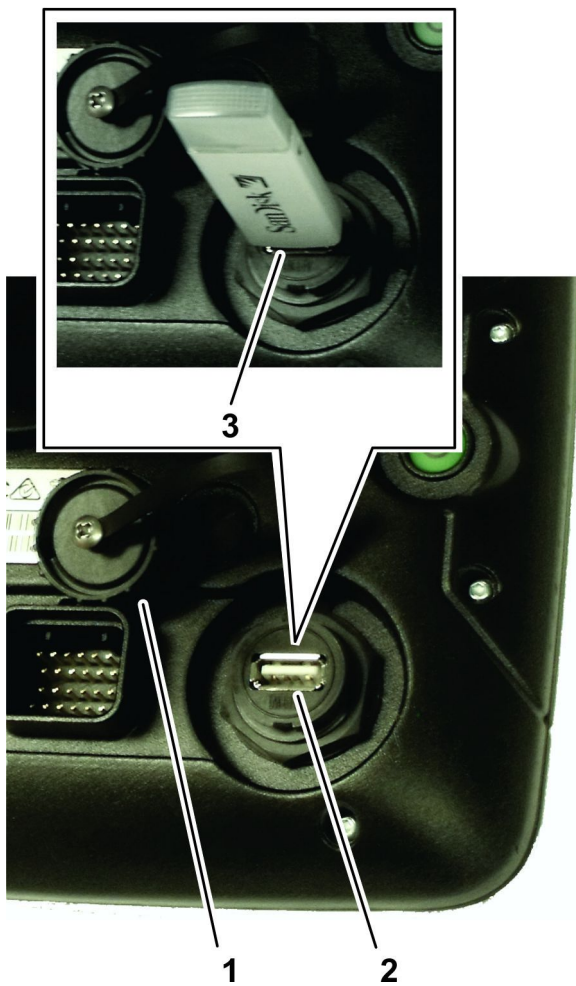

Figure 22
1. Remove the cap for the USB port located below the power button (Figure 22).
2. Insert a USB storage device into the USB socket (Figure 22).